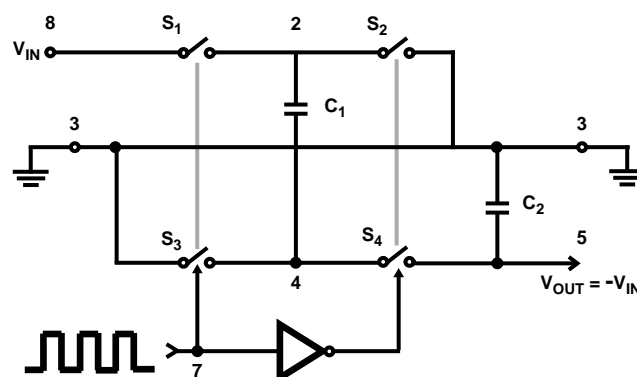
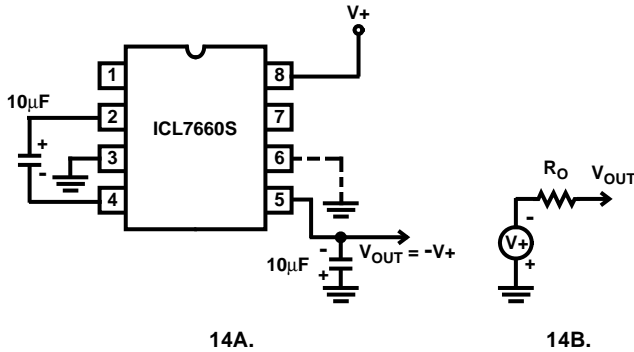
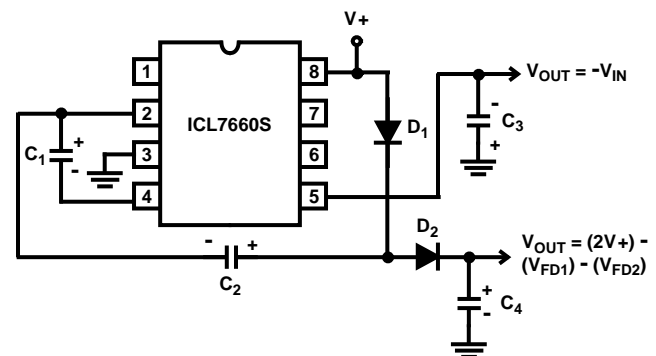

FIGURE 13. IDEALIZED NEGATIVE VOLTAGE CONVERTER
FIGURE 14. SIMPLE NEGATIVE CONVERTER AND ITS OUTPUT EQUIVALENT
FIGURE 21. COMBINED NEGATIVE VOLTAGE CONVERTER AND POSITIVE DOUBLER
The ICL7660S contains all the necessary circuitry to complete a negative voltage converter, with the exception of 2 external capacitors which may be inexpensive 10 μ F polarized electrolytic types. The mode of operation of the device may be best understood by considering Figure 13, which shows an idealized negative voltage converter. Capacitor C_1 is charged to a voltage, V_+ , for the half cycle when switches S_1 and S_3 are closed. (Note: Switches S_2 and S_4 are open during this half cycle.) During the second half cycle of operation, switches S_2 and S_4 are closed, with S_1 and S_3 open, thereby shifting capacitor C_1 to C_2 such that the voltage on C_2 is exactly V_+ , assuming ideal switches and no load on C_2 . The ICL7660S approaches this ideal situation more closely than existing non-mechanical circuits.
In the ICL7660S, the 4 switches of Figure 13 are MOS power switches; S_1 is a P-Channel devices and S_2 , S_3 and S_4 are N-Channel devices. The main difficulty with this approach is that in integrating the switches, the substrates of S_3 and S_4 must always remain reverse biased with respect to their sources, but not so much as to degrade their "ON" resistances. In addition, at circuit start up, and under output short circuit conditions ($V_{OUT} = V_+$), the output voltage must be sensed and the substrate bias adjusted accordingly. Failure to accomplish this would result in high power losses and probable device latchup.
where V_1 and V_2 are the voltages on C_1 during the pump and transfer cycles. If the impedances of C_1 and C_2 are relatively high at the pump frequency (refer to Figure 13) compared to the value of R_L , there will be substantial difference in the voltages V_1 and V_2 . Therefore it is not only desirable to make C_2 as large as possible to eliminate output voltage ripple, but also to employ a correspondingly large value for C_1 in order to achieve maximum efficiency of operation.
The majority of applications will undoubtedly utilize the ICL7660S for generation of negative supply voltages. Figure 14 shows typical connections to provide a negative supply where a positive supply of +1.5V to +12V is available. Keep in mind that pin 6 (LV) is tied to the supply negative (GND) for supply voltage below 3.5V.
The output characteristics of the circuit in Figure 14 can be approximated by an ideal voltage source in series with a resistance as shown in Figure 14B. The voltage source has a value of $-(V_+)$. The output impedance (R_O) is a function of the ON resistance of the internal MOS switches (shown in Figure 13), the switching frequency, the value of C_1 and C_2 , and the ESR (equivalent series resistance) of C_1 and C_2 . A good first order approximation for R_O is:
Figure 21 combines the functions shown in Figure 14 and Figure 20 to provide negative voltage conversion and positive voltage doubling simultaneously. This approach would be, for example, suitable for generating $+9\text{V}$ and -5V from an existing $+5\text{V}$ supply. In this instance capacitors C_1 and C_3 perform the pump and reservoir functions respectively for the generation of the negative voltage, while capacitors C_2 and C_4 are pump and reservoir respectively for the doubled positive voltage. There is a penalty in this configuration which combines both functions, however, in that the source impedances of the generated supplies will be somewhat higher due to the finite impedance of the common charge pump driver at pin 2 of the device.